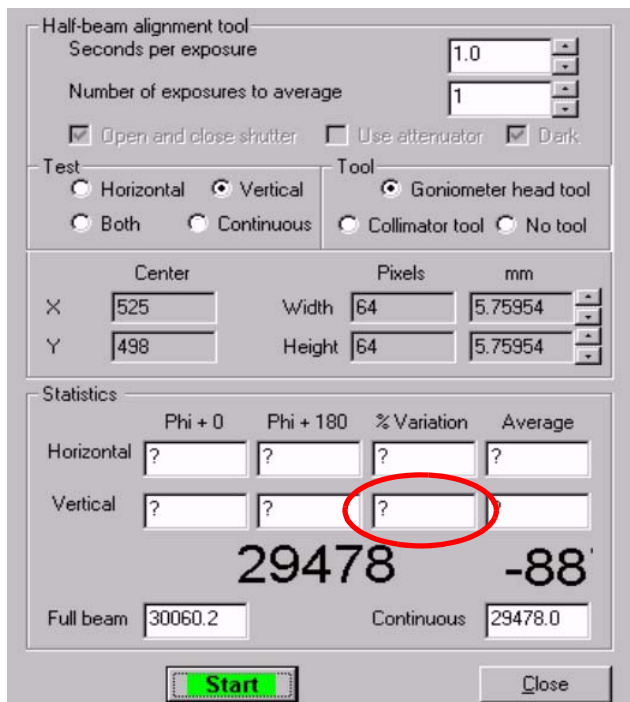

Figure 5.4 — Vertical test
3. Activate the "Manual" tab and slightly adjust the height of the alignment base at the crystal position to reduce the Vertical % Variation (Figure 5.4). Be sure that the pivot point is set to "Crystal". Return to the "Half beam" tab.